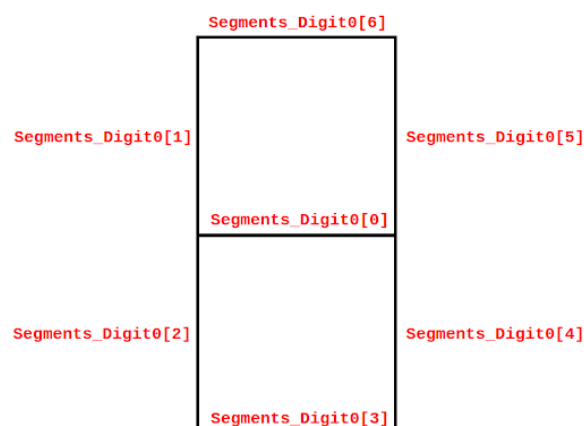

Figure 12. Segment numbering
- You do not need an enable register now. Instead, you need four 7-bit registers. Call them: `Segments_Digit0` – `Segments_Digit7`, one for each of the four 7-segment displays. In each of these registers, each bit indicates if the corresponding segment is ON (0) or OFF (1). For example, if all the bits of the first register (`Segments_Digit0`) are 0, all segments in the right-most digit will be ON, whereas if all the bits of the first register are 1, all segments of the right-most digit will be OFF. Use the segment numbering shown in Figure 12 (as shown for `Segments_Digit0`, but it will be the same numbering for all digits).